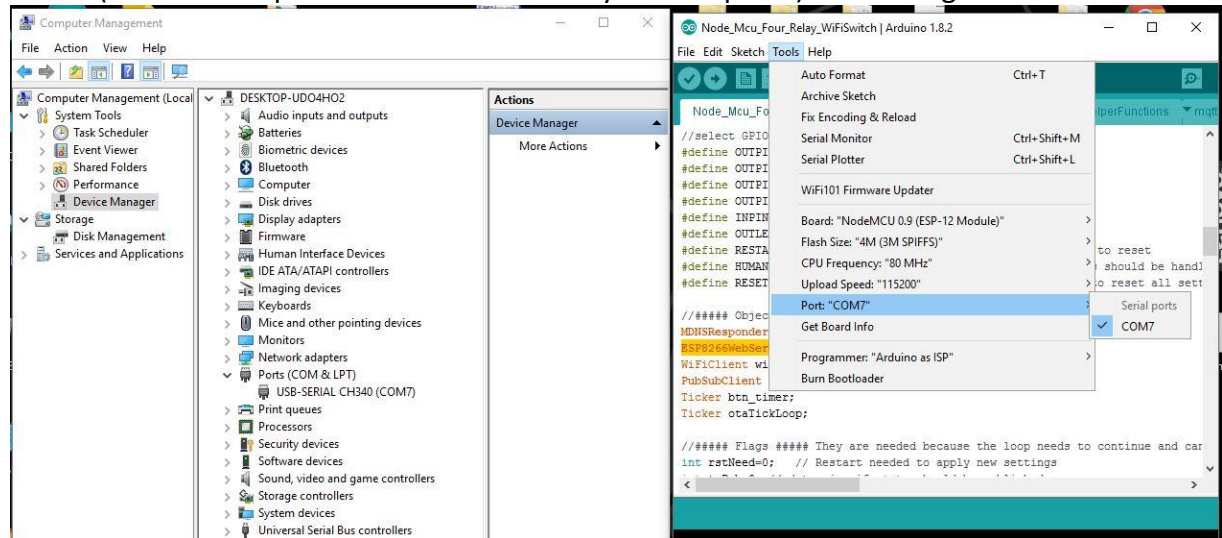

Figure 14: COM port selection.
8. Click on tools tab, move mouse pointer to “Port: “COMx””, under this click on “COMx” to select. (“x” refers to port number available in your computer) as shown in figure 14.